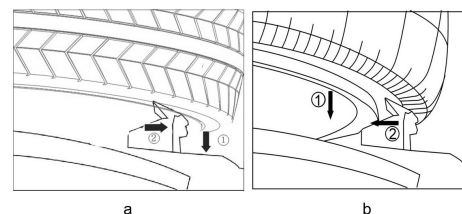

Fig.16
①Option 1: Internal rim clamping(Fig. 16-a) , press the pedal B to make the wedges close up, place the rim on the working plate and clamp it.
②Option 1: External rim clamping (Fig. 16-b) , make the wedges apart with the pedal B, place the wheel and locked it.